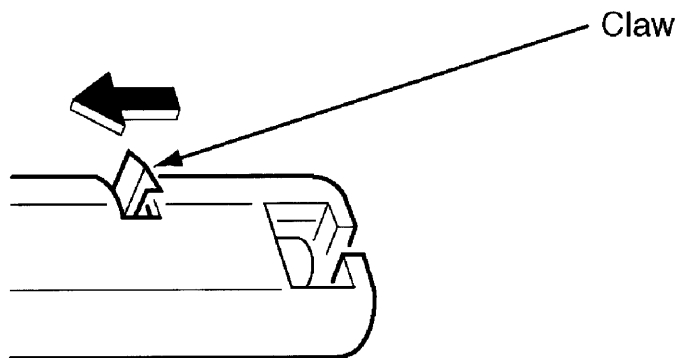

Figure-14
- Release the claw as shown in Figure-14.